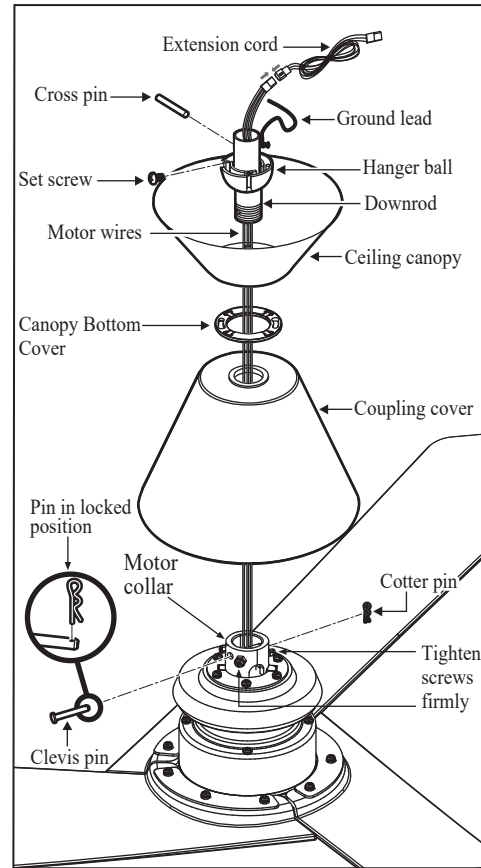

Figure 8
6. Carefully feed the motor wires up through the downrod. Thread the downrod into the collar. Align the holes and replace the clevis pin and cotter pin. Tighten the two collar setscrews. (Figure 8)
7. Slip the coupling cover, the canopy bottom cover, and the canopy onto the downrod. Carefully reinstall the hanger ball the ground lead onto the downrod, being sure that the cross pin is in the correct position, the setscrew is tightened and wires are not twisted. (Figure 8)